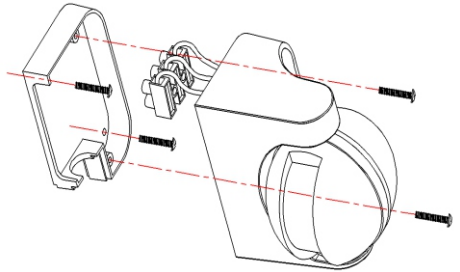

Figure 1
- Replace the bottom lid with inflated screws as shown in figure 1.